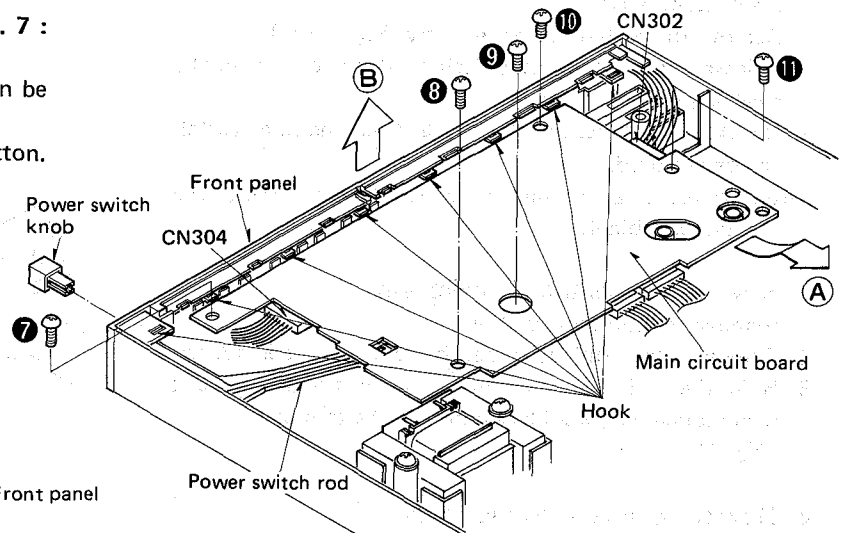

Fig. 6
3. Remove the 5 main circuit board setscrews (Fig. 6 : ⑦ ~ ⑪)
4. Pull out the power switch knob from the power switch rod. Then, lift the main circuit board in the direction of the arrow (A).
2. Remove the 2 connectors (Fig. 6 : CN302 and CN304), and then, lift the front panel in the direction of the arrow (B). (Fig. 6)